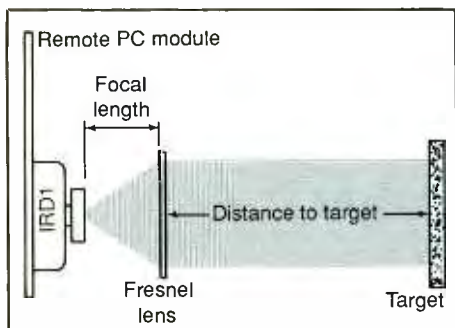

Fig. 7. Mechanical details for single-lens optical system for enhancing sensitivity of basic IR sensor element in project.
With no assistance, the project will have a range of about 10 to 15 feet for detection of a person. For a vehicle, which normally has a larger infrared "signature" because of the greater amount of heat it gives off, detection range will be slightly greater. If your intended location of the sensor with respect to the target is greater than this, you can enhance the sensitivity of the detector with a simple one-lens optical system, such as the one illustrated in Fig. 7. This will give you a range of up to 10 meters.
*Thanks for pointing out the schematic errors. Reference to Fig. 8 in the article is a typographical error, it should read Fig. 7.—Ed.*